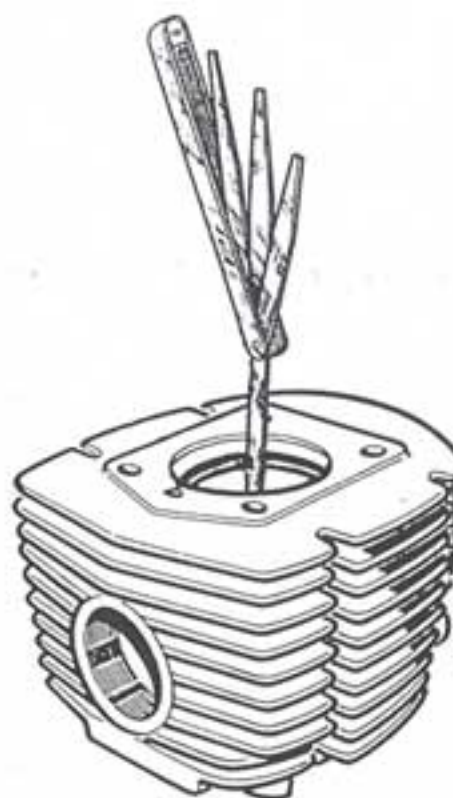

Fig. 2
- Measure the piston clearance (difference between the minimum cylinder bore and the maximum piston diameter), the piston ring end gap (fig. 2) and the clearance between ring and groove.